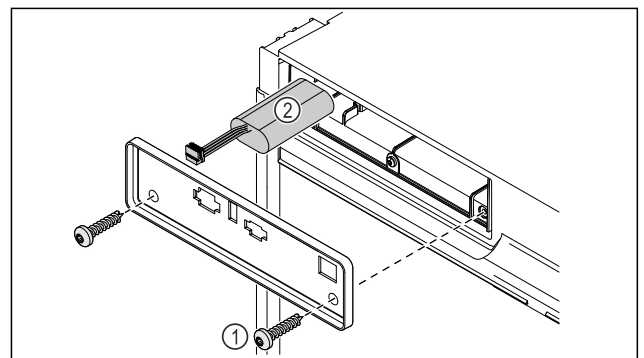

Fig. 195
- ▶ Unscrew the screws and remove the cover on the back of the appliance Fig. 195 (1).
- ▶ Disconnect and remove the battery Fig. 195 (2).